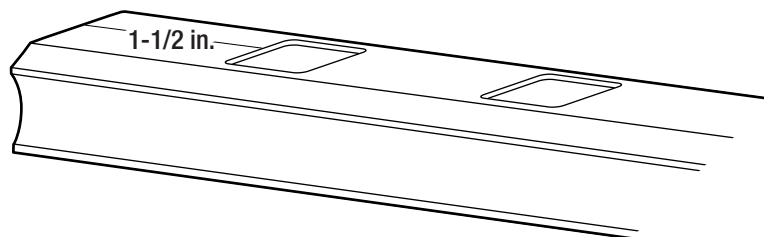

Fig. 3
- Transfer the measurement to the top rail, making sure that the distance from the end of the rail to the first baluster slot is equal on both ends of the rail. The minimum distance from a post to first baluster slot is 1-1/2-in. for clearance from the brackets. (See Fig. 3)